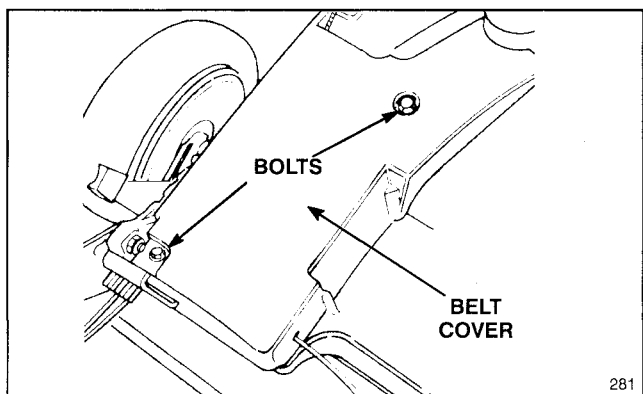

Figure 30
1. With engine turned off, remove bolts securing belt cover (Fig. 30) to mower housing. Lift off cover and brush out all debris from belt area. Reinstall belt cover.